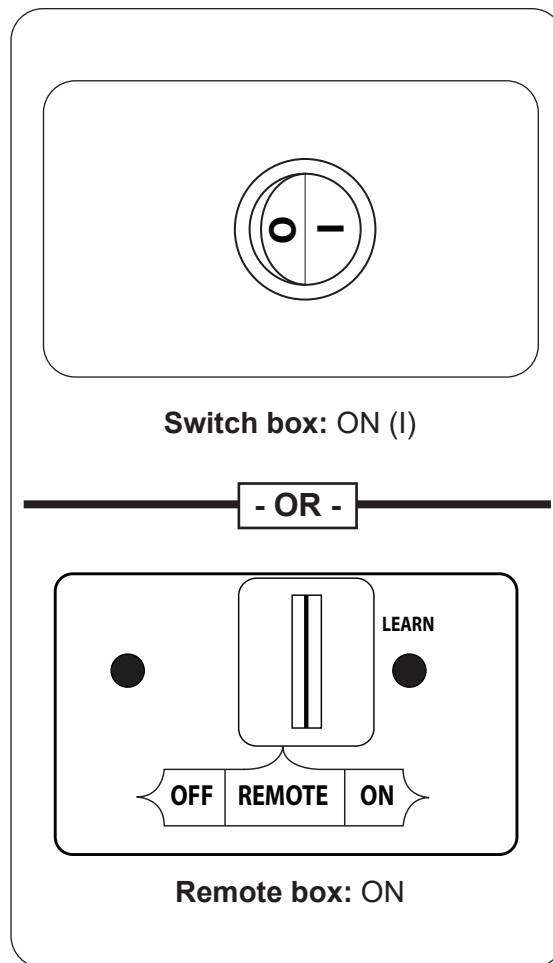

Fig. 31-1 Manual lighting
1. **Switch Box Models:** Locate the ON/OFF switch at the front of the switch box. Press the switch to the **ON (I)** position. See Fig. 31-1.
**Remote Box Models:** Locate the 3-position switch on the remote receiver (see Fig. 31-1), and slide the switch to the **ON** position.